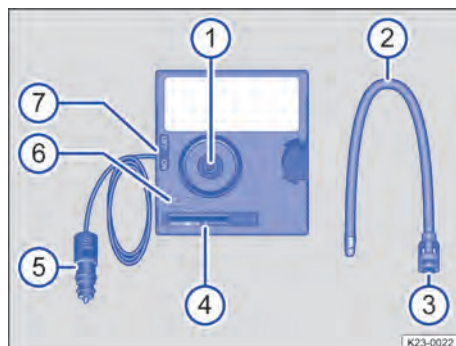
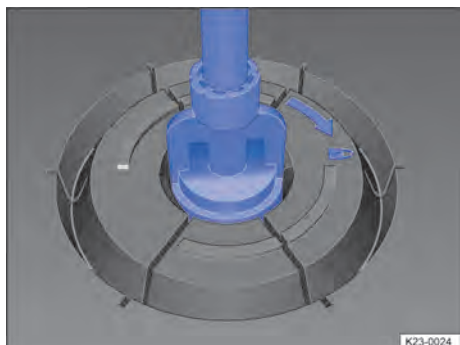
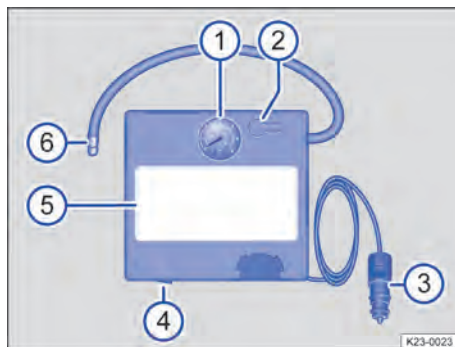

Fig. 221 Compressor in the breakdown set (illustration).
Fig. 222 Connecting the tyre filler hose.
Fig. 223 Compressor in the breakdown set (illustration).
1. Remove the tyre filler hose → Fig. 221 ② from the rear of the compressor.
2. Insert the tyre filler hose → Fig. 221 ② with the wing nut ② into the mount for the tyre filler hose ① so that the wing nut is pointing to ☞.
3. Turn the wing nut → Fig. 221 ③ in a clockwise direction until the wing nut is pointing to ☞ → Fig. 222.
4. Screw the tyre filler hose → Fig. 221 ② of the compressor tightly onto the tyre valve.
6. Insert the 12-volt plug → Fig. 221 ⑤ into one of the vehicle's 12-volt sockets → page 208.
7. Switch on the compressor with the ON/OFF switch → Fig. 221 ⑦.
1. Screw the tyre filler hose → Fig. 223 ⑥ of the compressor tightly onto the tyre valve.
3. Insert the 12-volt plug → Fig. 223 ③ into one of the vehicle's 12-volt sockets → page 208.
4. Switch on the compressor with the ON/OFF switch → Fig. 223 ④.
5. Run the compressor until the pressure has reached 2.0–2.5 bar (29–36 psi/200–250 kPa). **Maximum run time: 10 minutes** → ①.
2. Reconnect the tyre filler hose → Fig. 221 ② or → Fig. 223 ⑥ and read the tyre pressure on the tyre pressure display → Fig. 221 ④ or → Fig. 223 ①.